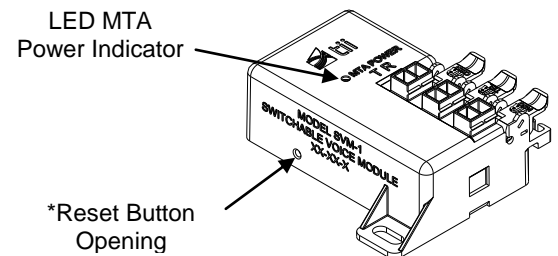

Figure 4
2. **Gently** push the reset button once with a blunt object to ensure the service to the customer is from the Telco Service Provider (See Figure 4).